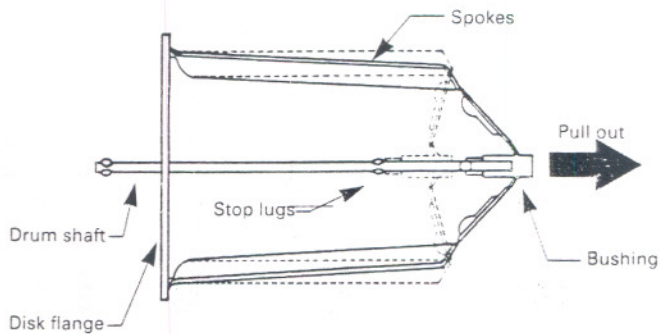

FIG.27
1. Hold the **drum assembly** in a **horizontal** position and **pull the bushing** out with your fingers. (Fig.27)